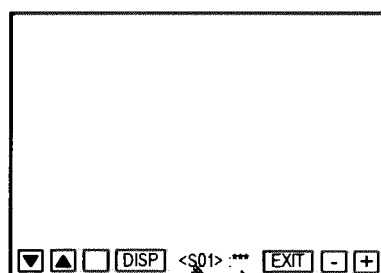

Fig. 4
(3) SETTING VALUE CHANGES
- While the adjustment mode menu is displayed.(Fig.4)
- ① Press the +key to change the setting value in the + direction.
- ② Press the -key to change the setting value in the - direction.
- ③ Press the **PHASE** key or **CHROMA** key to change the adjustment items.
(4) SERVICE MENU EXIT
- ① When settings are completed, press **MENU** key.
- ② The SERVICE MAIN MENU returns.
- ③ Again press **MENU** key.